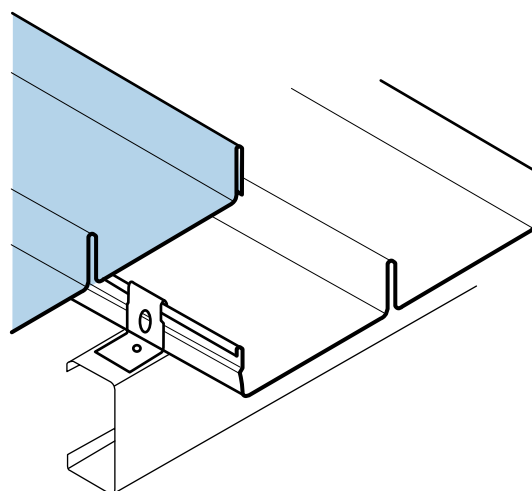
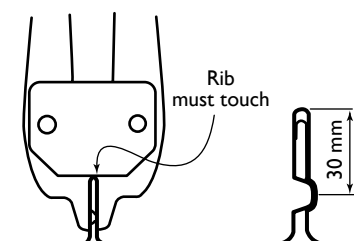

Figure 9.4.5
Figure 9.4.6
2. Place top fixing clips over each flattened rib and fix to the purlins (Figure 9.4.5). With a felt-tipped pen, make a small mark in the pan to enable you to locate the clips in the later locking operation with the button punch (Figure 9.4.6).
3. Place the next sheet over the edge of the preceding sheet, (Figure 9.4.5). Accurately position the sheet so that it overhangs the desired amount into the gutter. It is important that you keep the gutter-end of all sheets at a constant distance from the edge of the gutter or fascia.
All lapped ribs must be locked along their length, by button punching at no greater than 900mm centres (Figure 9.4.6).